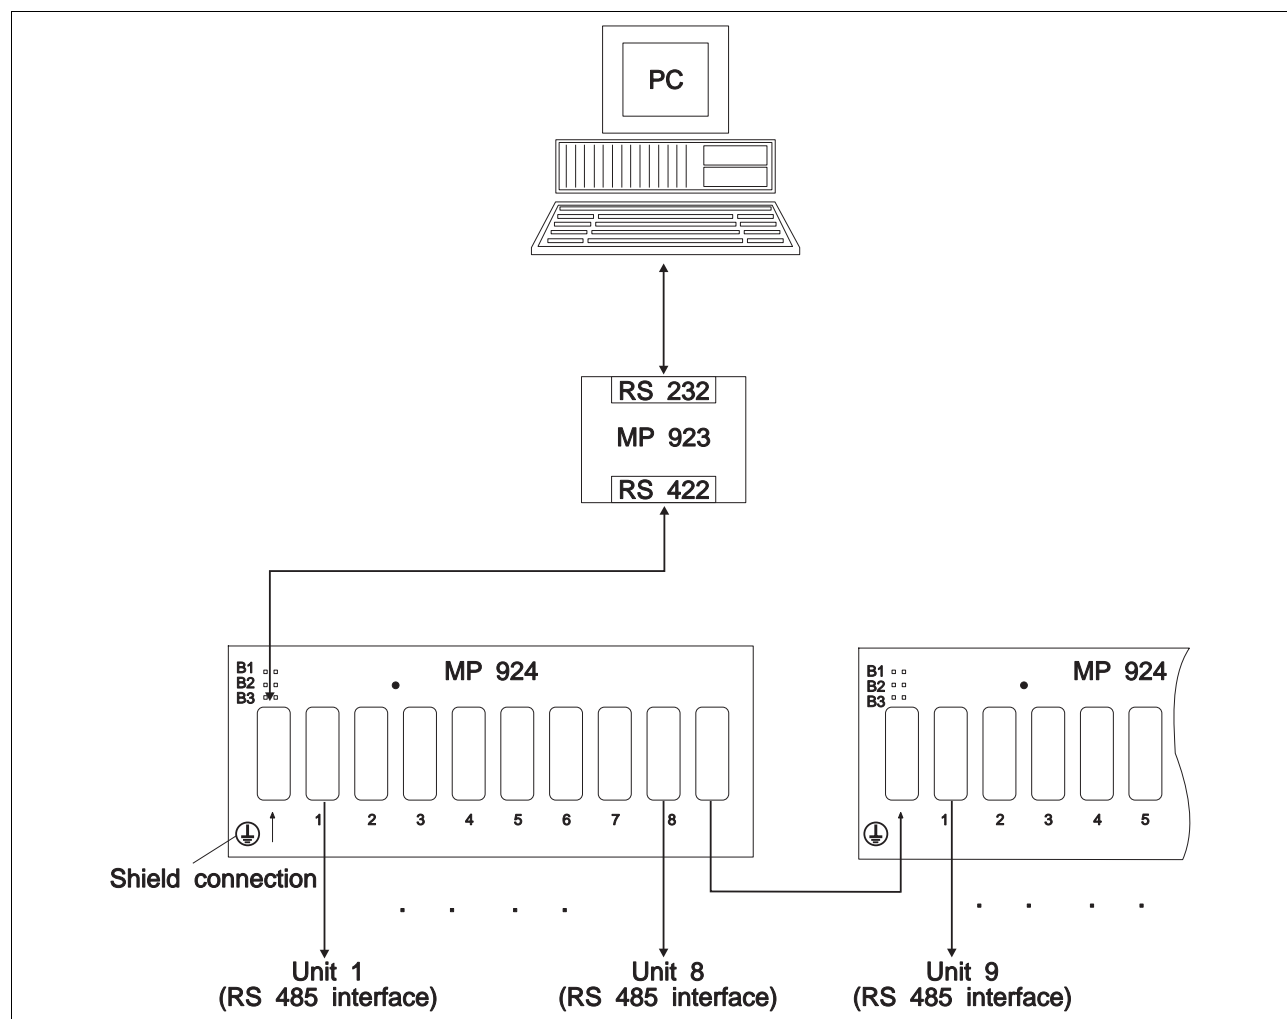

Fig. 6-23 Cabling of MP 924 interface distributor
1. Connect MP 924 interface distributor according to fig. 6-23. Use MP 923 interface converter for interface conversion RS 232 ↔ RS 485 (RS 422) (see chapter 6.2.14).
2. When several MP 924 interface distributors are used, they must be connected according to fig. 6-23.